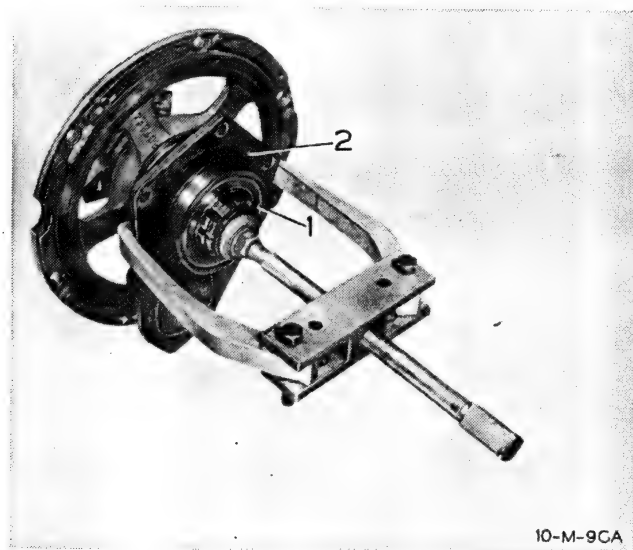

Fig. 138
2. Using a gear puller, remove mainshaft front bearing and bearing cap. Fig. 138.
QUILL SHAFT REASSEMBLY (See Figs. 138, 139, 140, 141)